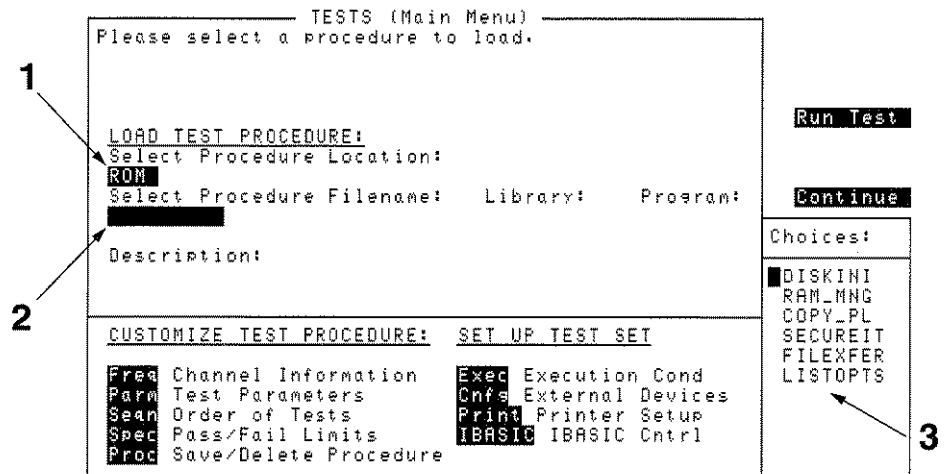

Figure 2-2. Loading A Procedure From ROM
There is no automated software available at present for the HP 8923B, but there are six internal procedures stored in ROM that can be run. They are shown in Figure 2-2 (Item (3)). If software becomes available for the HP 8923B, the documentation for using the test subsystem will be included with the software.
1. Press the front-panel **TESTS** key and select the **Location** field. See item (1) in Figure 2-2.
3. Select the **Procedure** field. See item (2) in Figure 2-2.
4. Choose the file that you want to load. See item (3) in Figure 2-2.